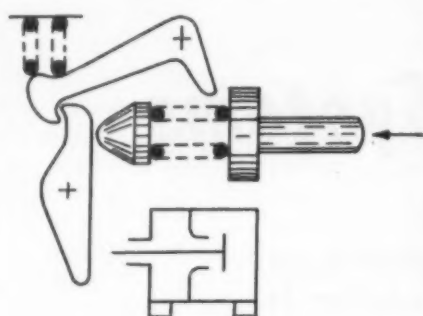

Fig. 105 — Latch - operated trigger type sequence valve with high positional accuracy
In Fig. 105 is shown a trigger type sequence valve in which the initial actuation compresses a valve stem spring through a lever, but operation of the valve is prevented by a latch until a position is reached when the latter is released, the spring then opening the valve to the full extent. Valves of this type may be made to operate with a very high degree of positional accuracy.
2. Mechanically operated valves of the spring returned type, including the trigger action valves of Figs. 105 and 106. These function at the end of one operation, and reset at the beginning or during the course of the converse operation (it is also possible to obtain the same action with pressure or flow-sequence valves).